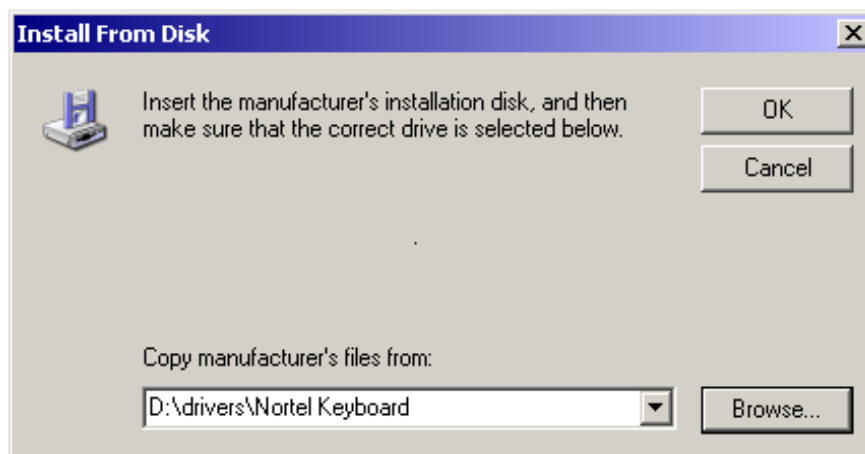

FIGURE 258. Install From Disk window
22. Select Open. The Install From Disk window will reappear with the location of the files as in Figure 258.